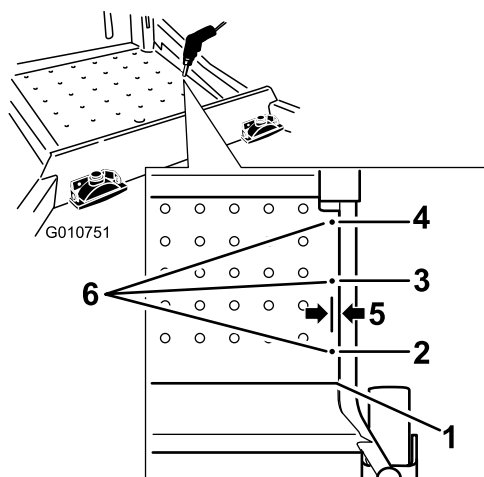

Figure 3
- A. Measure from the front edge of the pan rearward to mark locations at 7.62, 22.86, and 38.1 cm (3, 9, and 15 inches) (Figure 3).